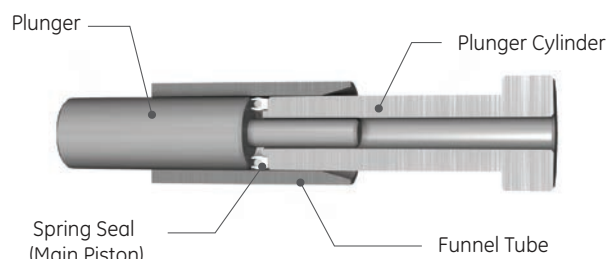

Figure 56: Funnel Tube
- iv. Insert Funnel Tube, chamfer side first, over the Plunger and Spring Seal (Adjuster Top). Stop when Spring Seal (Adjuster Top) is about half way inside the Funnel Tube as shown in Figure 56.